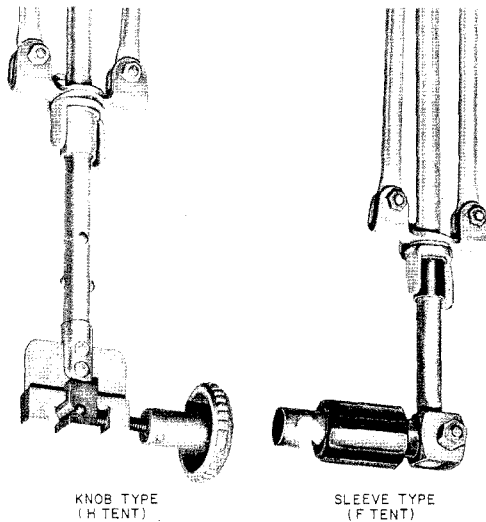

Fig. 4 — Types of Clamp Assemblies on Aerial Tents
2.05 The frame is made of aluminum-alloy tubing and consists of a rigid center bow and two side bows which are hinged to sliding sleeves on the center bow. The sliding sleeves are equipped with latches which lock the side bows in the open position. The ends of the center bow are attached to clamp assemblies which provide a means of mounting the frame on cable suspension strand. The H Aerial Tent has a knob-operated type clamp instead of the sleeve-type clamp used on the F Aerial Tent. The clamps are shown in Fig. 4.